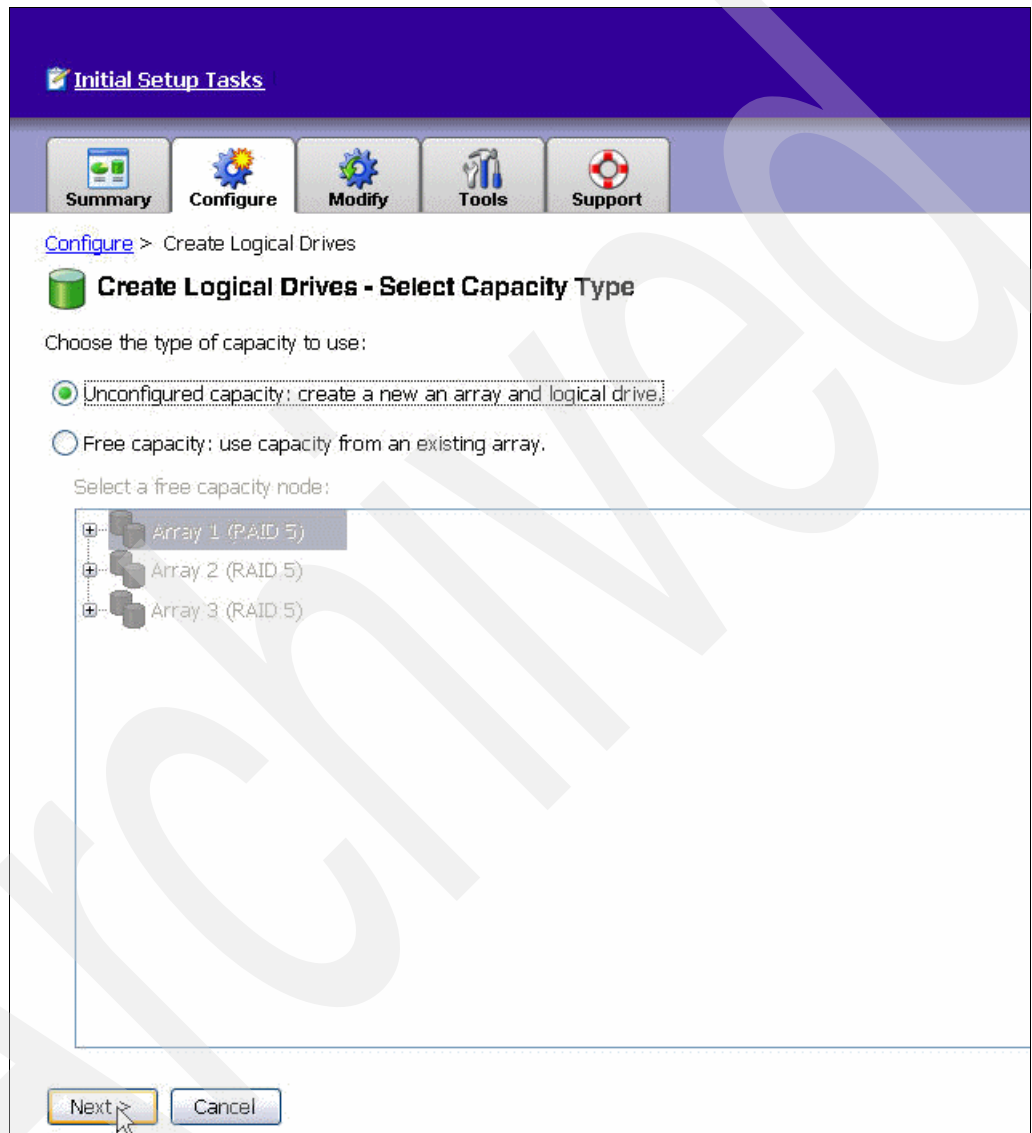

Figure 7-26 Select capacity type for the new array
1. We use Configure → Create Logical Drives. We keep Unconfigured Capacity: Create a new an array and logical drive checked and click **Next** (Figure 7-26).